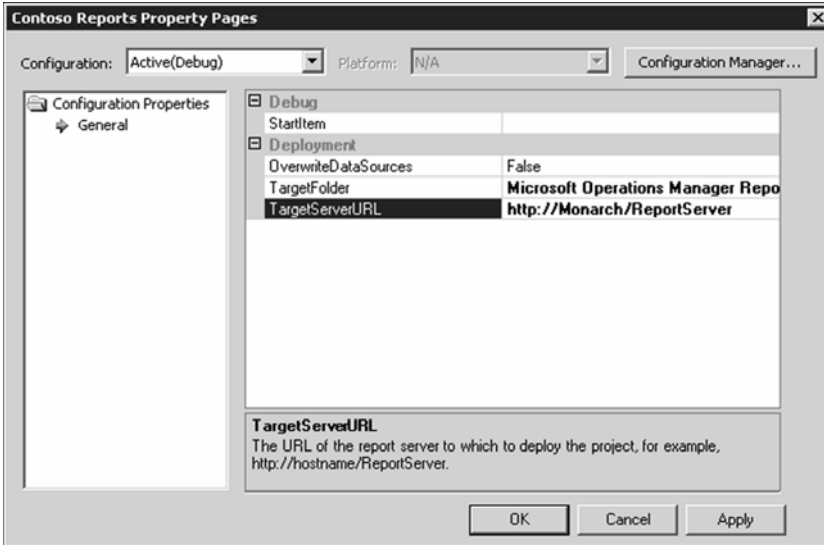

FIGURE 21.24 Reports Property Pages window.
3. Change the TargetServerURL field to the URL of the report server—for example, **http://<server name>/ReportServer**. The Reports Property Pages windows should look similar to Figure 21.24. Click OK.